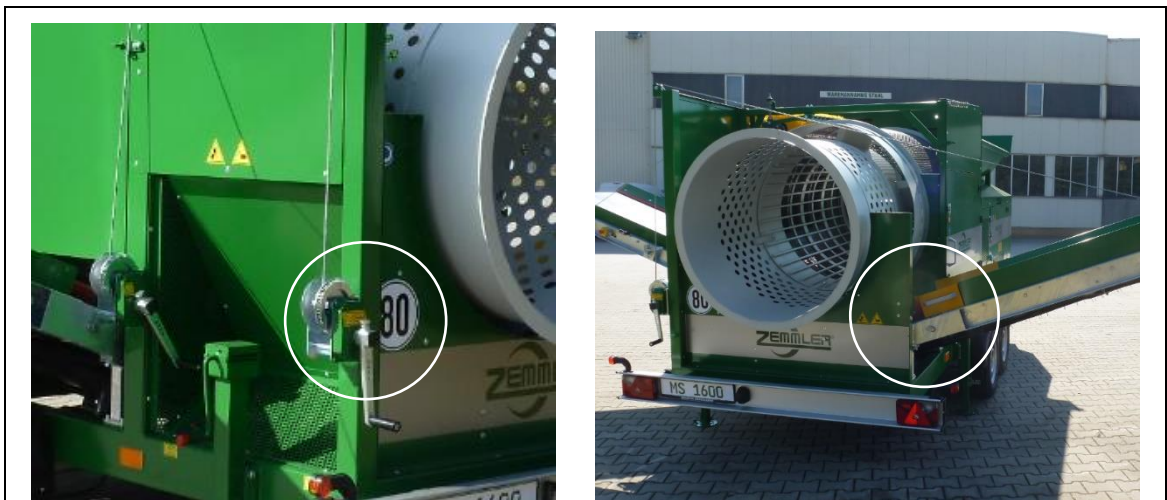

fig. 8-2: Coarse fraction with guide plates
1. Put the crank on the rope winch (fig. 8-2)
4. After folding out the belt, install the guide plates (fig. 8-2 right)
1. Before folding in the coarse fraction, deinstall the guide plates (see figure 8-2).